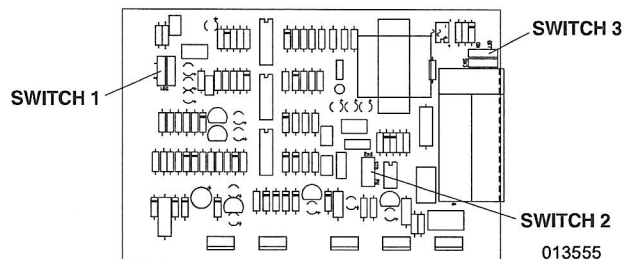

Figure 1. Switch Location
See **Figure 1**. With the introduction of Generac's new line of permanent magnet Generators (PMG), the solid state Voltage Regulator had to be updated as well. New Voltage Regulator circuit boards mount three (3) miniature switches, identified on the board as Switch 1, Switch 2, and Switch 3. In the event that a Voltage Regulator must be replaced, the technician must make sure that all switches are properly positioned as follows: